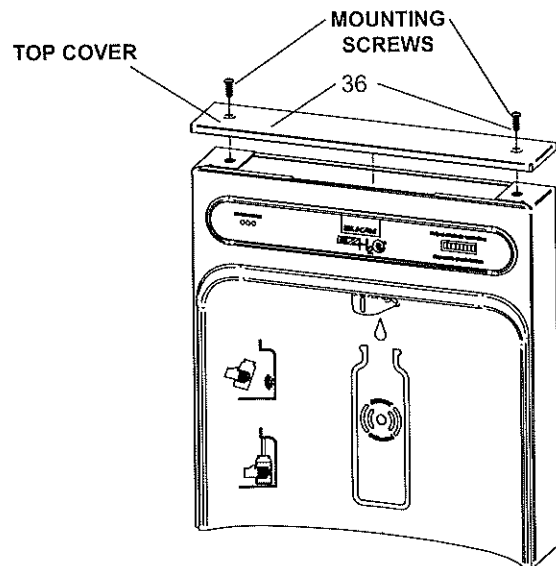

Fig. 9
- 1) Remove two (2) mounting screws with 5/32" Allen wrench holding top cover to Bottle Filler (See Fig. 9). Remove top cover. Note do not discard mounting screws, they will be needed to reinstall top cover.
- 9) Once Bottle Filler is installed on wall plate tabs, water line and power cord are installed properly, push top of Bottle Filler toward wall and line up top cover two (2) holes.
- 10) Reinstall Top Cover on Bottle Filler (See Fig. 9) with two mounting screws from step 1 above. Caution, do not over tighten screws.